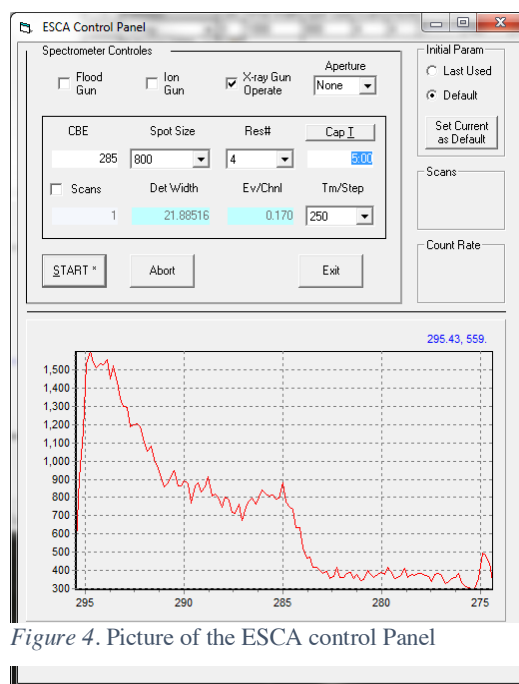

Figure 4. Picture of the ESCA control Panel
- 8) Open the ESCA control Panel, Figure 4, by going to View=>ESCA Control Pnl. Make sure that the “Xray Gun Operate” check box is checked to turn on the high voltage to the gun.